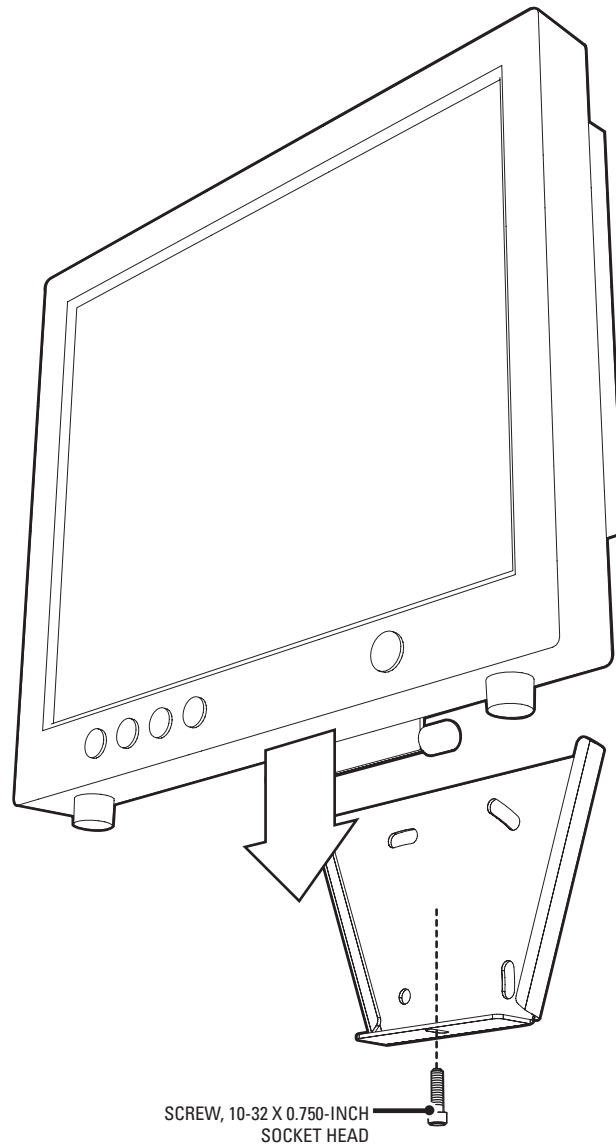

Figure 2. Attaching the Wall Bracket and Monitor
3. Carefully slide the monitor bracket into the slots of the wall bracket. Refer to Figure 2.
4. Use the 10-32 socket head screw to fasten the wall bracket to the monitor bracket. Refer to Figure 2.